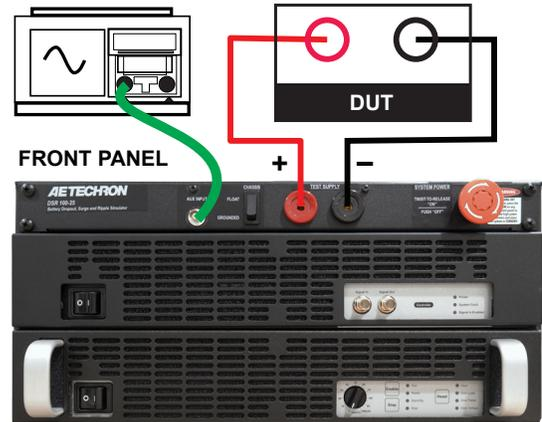

Figure 4.6 – Connecting an External Signal Source
2. **Connect the Signal Source:** Use a BNC cable to connect from the signal output connector on your external signal source to the DSR100-25's BNC connector labeled Aux Input. See **Figure 4.6**.
3. **Connect the Outputs:** Using the supplied mating output connectors and wiring appropriate for your application, connect from the DSR 100-25's positive and negative test supply connectors to the device under test. See **Figure 4.6**.